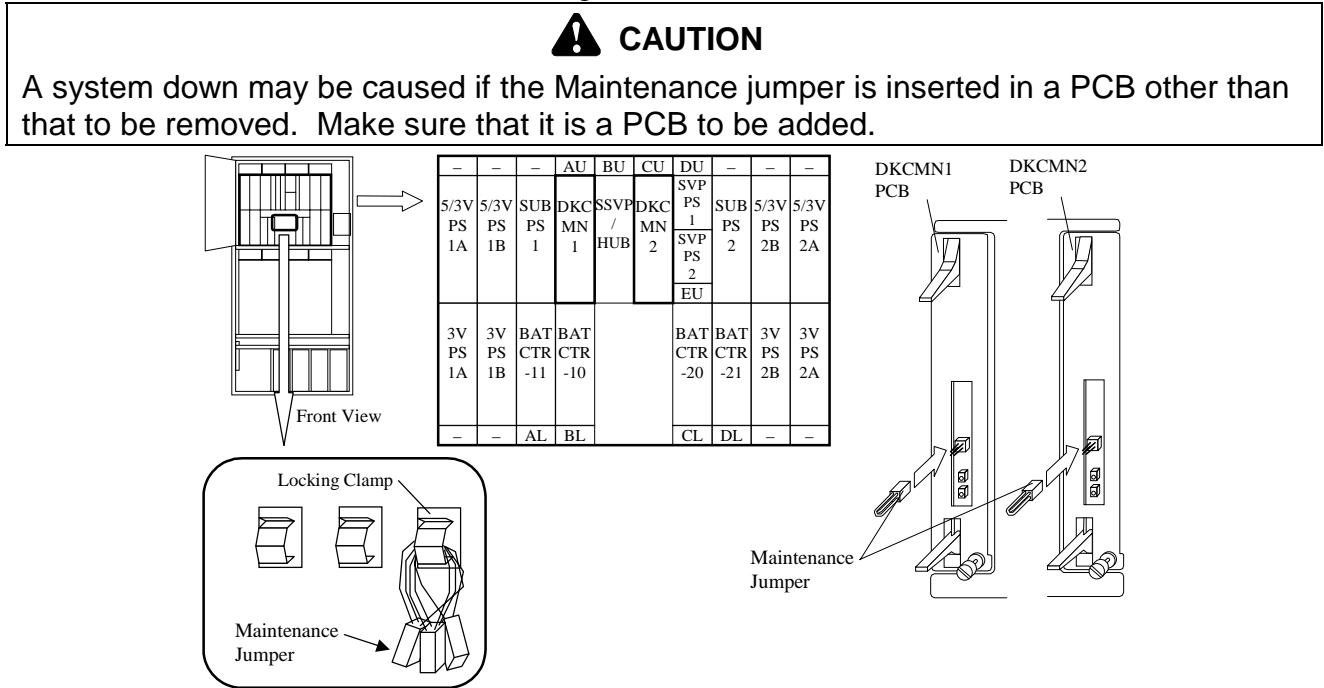

Fig. 3.10-2 Insertion of Jumper Plug
- Suppress the DKC panel function by inserting the maintenance jumpers into the jumper pins on the DKCMN PCBs as shown in Figure 3.10-2.